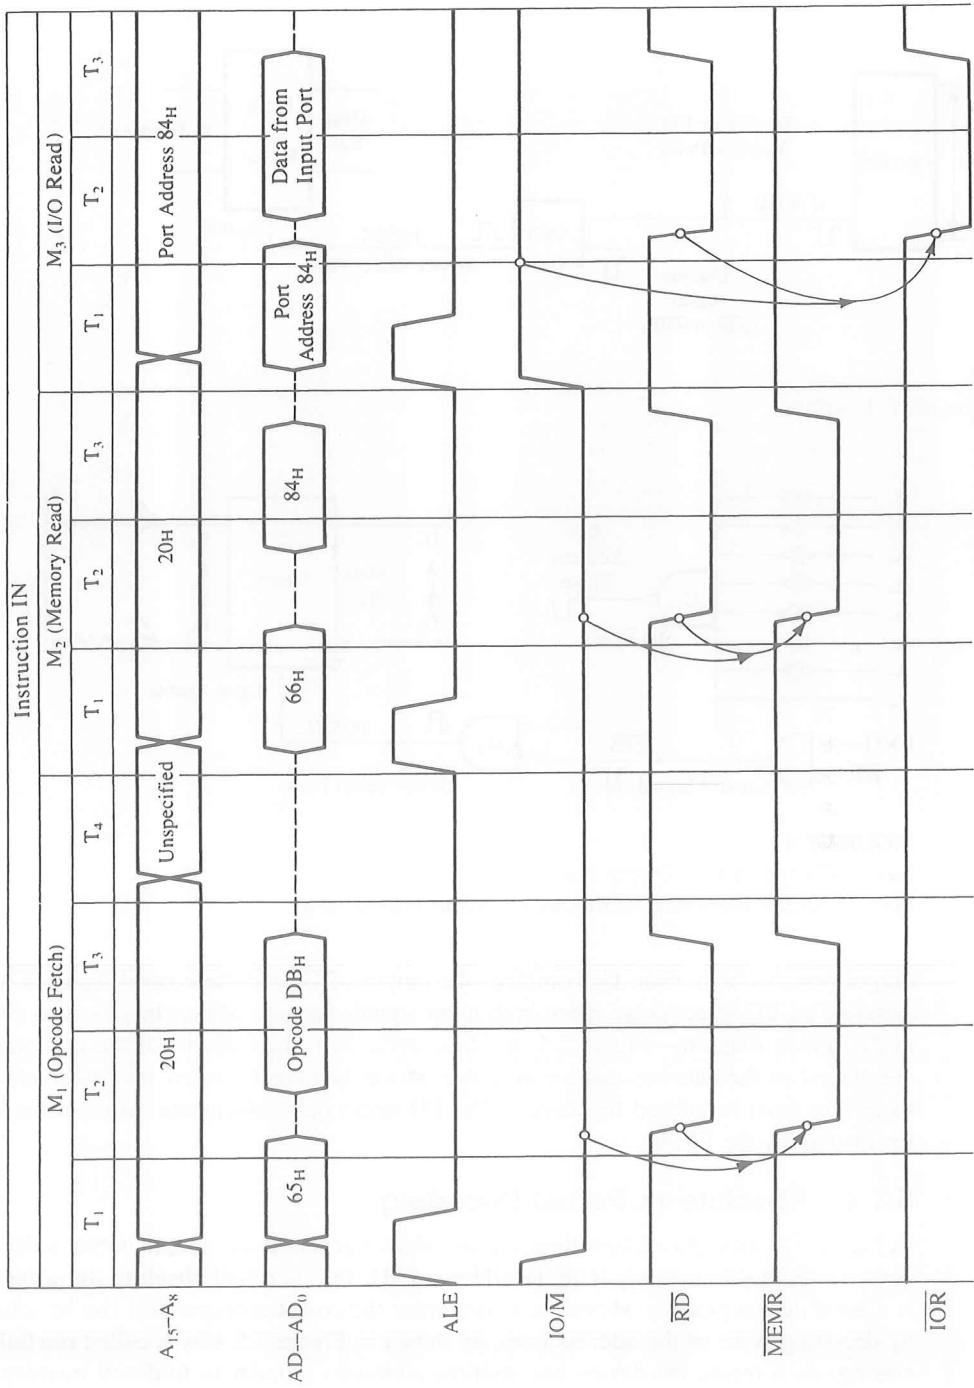

FIGURE 5.2
sitions at port 84H by enabling the interfacing device of the port. The data byte indicating switch positions from the input port will be placed in the accumulator. Figure 5.2 shows the timing of the IN instruction; M₁ and M₂ cycles are identical to that of the OUT instruction. In the M₃ cycle, the 8085 microprocessor places the address of the input port (84H) on the low-order address bus AD₇–AD₀ as well as on the high-order address bus A₁₅–A₈ and asserts the RD signal, which is used to generate the I/O Read (IOR) signal. The IOR enables the input port, and the data from the input port are placed on the data bus and transferred into the accumulator.
Machine cycle M₃ (Figure 5.2) is similar to the M₃ cycle of the OUT instruction; the only differences are (1) the control signal is RD instead of WR, and (2) data flow from an input port to the accumulator rather than from the accumulator to an output port.